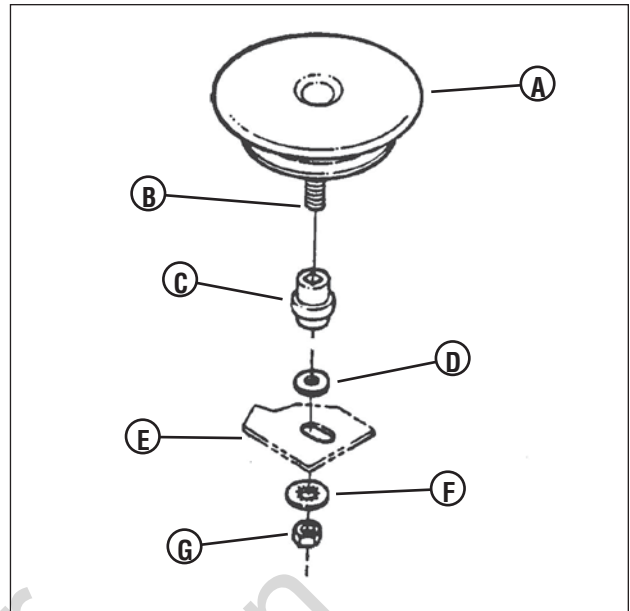

Figure 32: Removing the drive disc
5. Hold the slotted end of the drive disc bolt (B, Figure 32) with a screwdriver and remove the nut (G) and internal tooth lock washer (F).
7. Lift the drive disc (A) up and remove the worn belt.